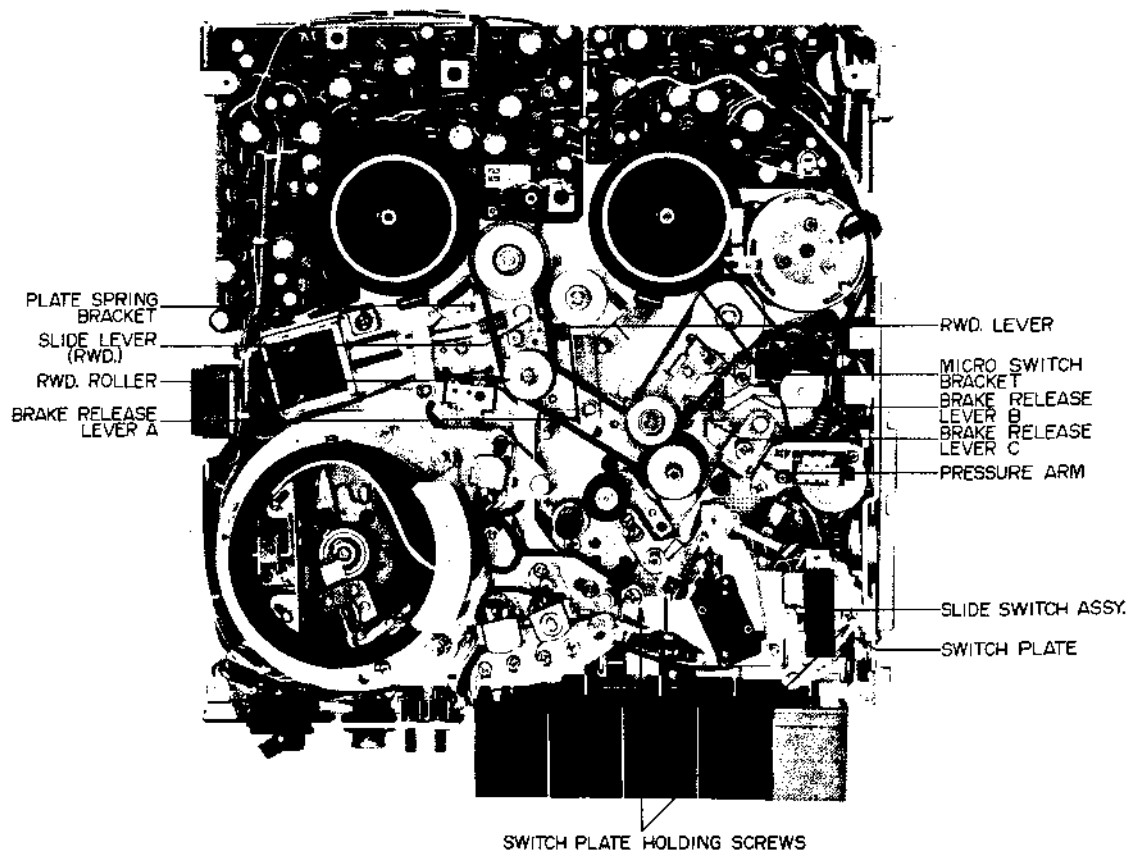
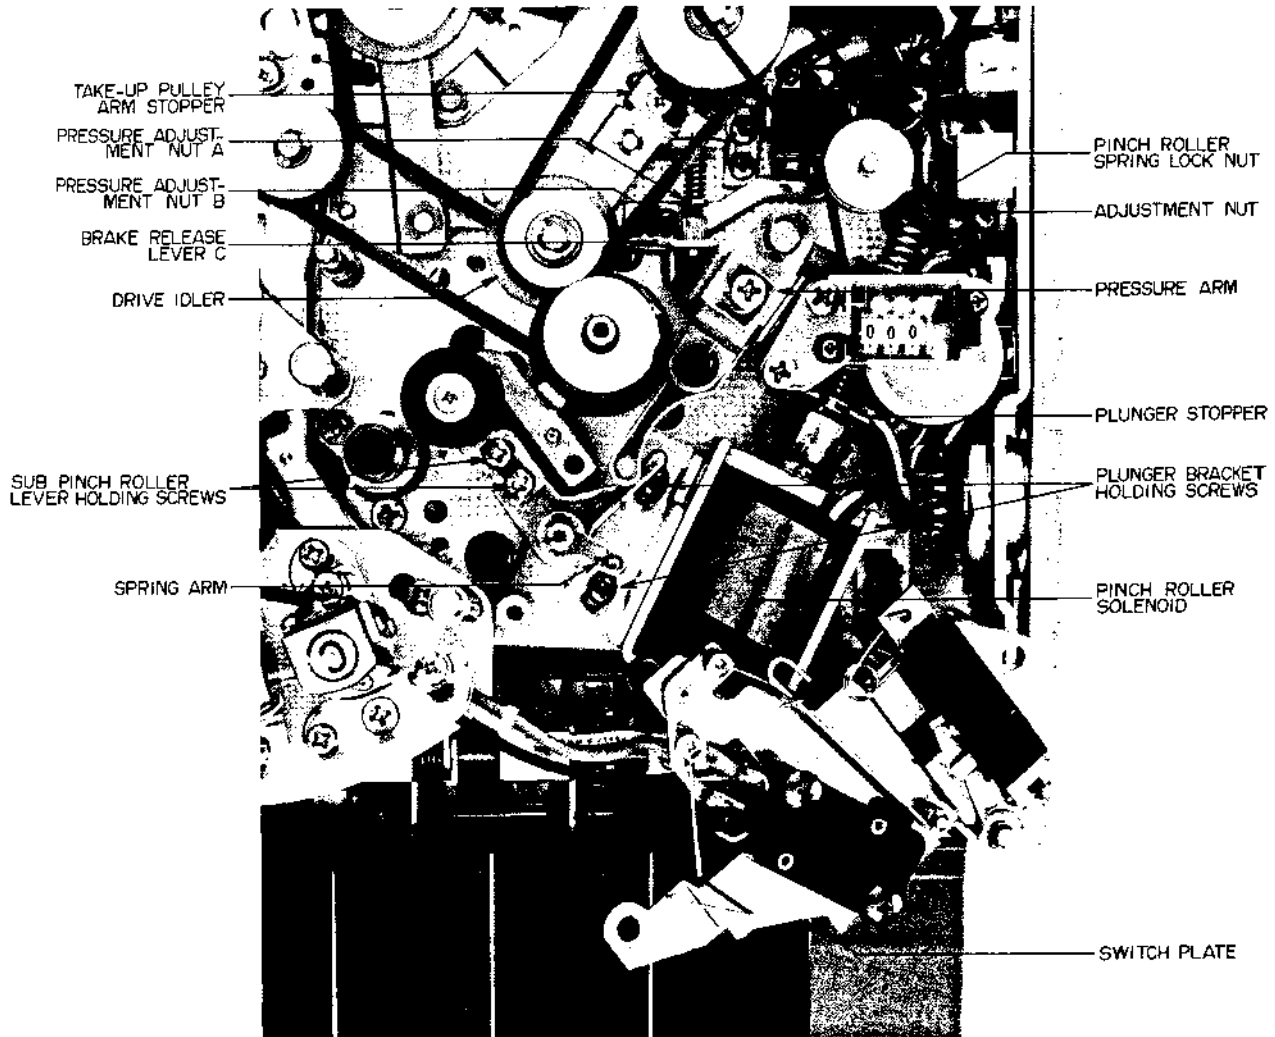
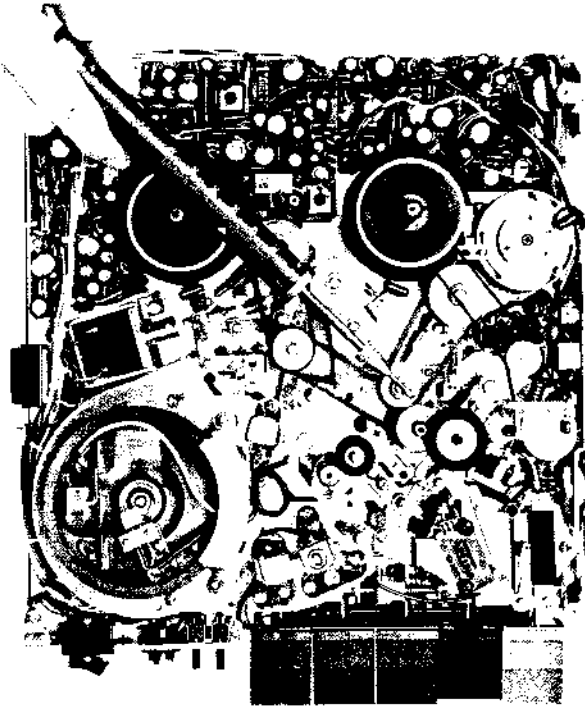

Fig. 1-1
Fig. 1-2
Fig. 1-5
(1) MAIN PINCH ROLLER PRESSURE ADJUSTMENT
- a) Remove the two switch plate holding screws (Refer to Fig. 1-1) and move the slide switch assembly as shown in Fig. 1-2.
(3) DRIVE IDLER AND TAKE-UP PULLEY ADJUSTMENT
- a) At stop mode, confirm that the space between Drive Idler and Capstan Pulley is about 1 mm. (Refer to Part (1), Item (f) above).
- c) As shown in Fig. 1-5, at playback mode, connect a 0 to 500g spring gauge to upper part of the drive idler shaft and measure the pressure when drive idler rotation stops.
(4) BRAKE RELEASE AND MICRO SWITCH ADJUSTMENT
- a) Adjust Brake release lever "C" so that at playback mode, the brake shoe separates from the reel table drum by about 1 mm, and at stop mode, brake lever "B" does not touch lever "A". (Refer to Fig. 1-1)
- c) Adjust the micro switch bracket so that brake tension lever "B" pushes the 2 micro switches perfectly at playback mode, and the 2 micro switches are turned off perfectly at stop mode. (Refer to Fig. 1-1)